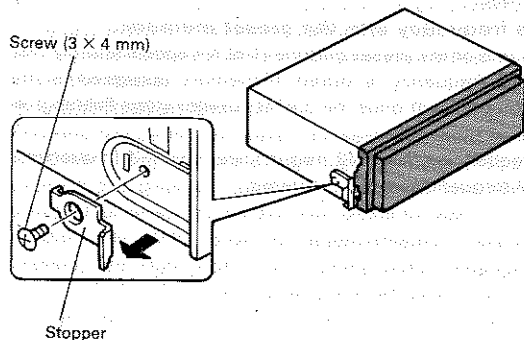

Fig. 1
- If installation angle exceeds  $30^\circ$  from horizontal, the unit might not give its optimum performance. (Fig. 1)
Remove the screw ( $3 \times 4$  mm) and remove the stoppers from both sides (Fig. 1).